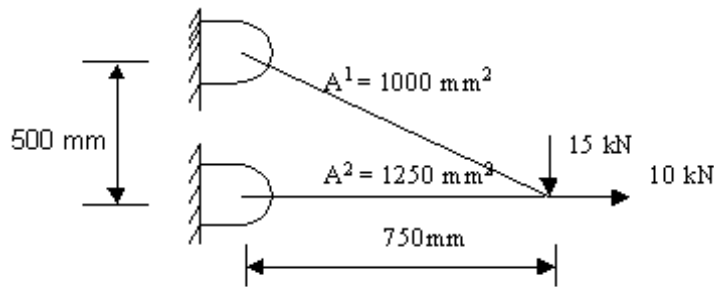

Figure 4:
3. For the pin jointed truss shown in figure. If $E = 200 \text{ Gpa}$, determine{As shown in the Figure4}